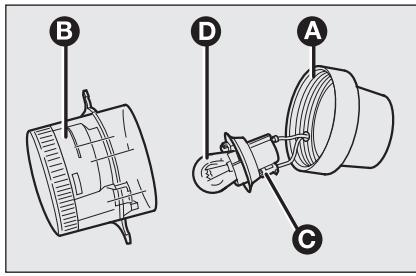

fig. 20
- remove the cap **A**-**fig. 20** from the lens **B** and remove the bulb holder **C**;